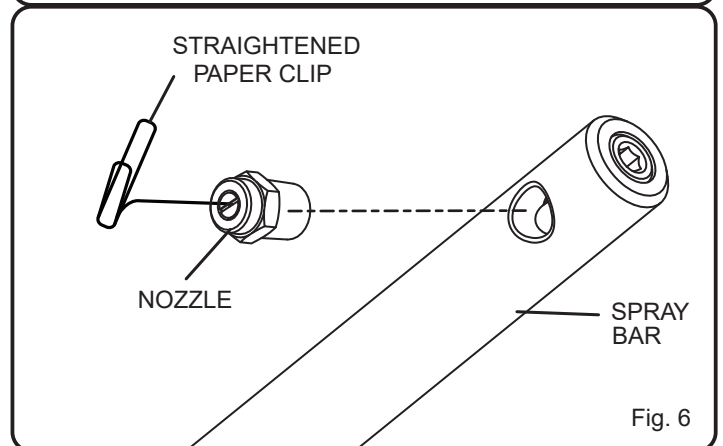

Fig. 6
**NOTE:** See figure 6 for the location of the spray bar.
See Figure 6.